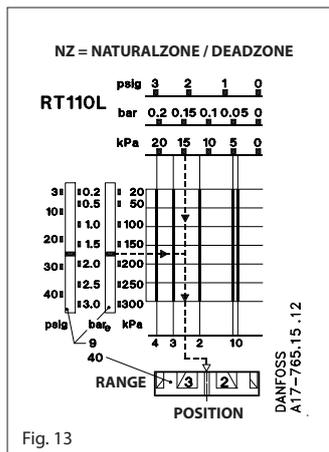

Fig. 13
The interval in the controlled variable in which the correcting element does not respond (see fig. 13)
The range is set using the setting knob (5) fig. 8 while reading the range scale (9). The pressure set is the break pressure for contacts 1-4 (see fig. 13).
The required neutral zone can be found in the diagram for the unit concerned. The position at which the neutral zone disc (40) must be set can be read from the lower scale in the diagram. The function can be seen in fig. 13.